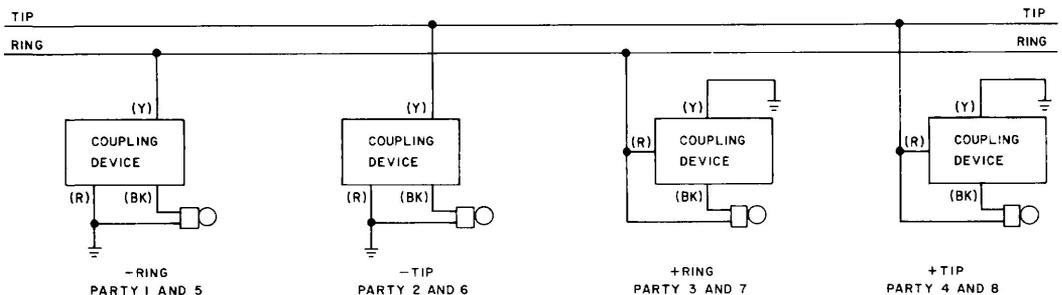

Fig. 4—Four-Party Full Selective and Eight-Party Semiselective Type Ringing using a Coupling Device
3.04 Four-party full selective ringing (Fig. 4, 5, or 6) is accomplished by using telephones employing an electron tube, diode, or extender in the ringing circuits as coupling devices, Table A.
3.05 Eight-party semiselective ringing (Fig. 4, 5, or 6) is also accomplished by using sets employing an electron tube, diode, or extender coupling device (Table A) in the ringing circuit. Coded ringing is used to differentiate between stations of the same polarity on the same side of the line.